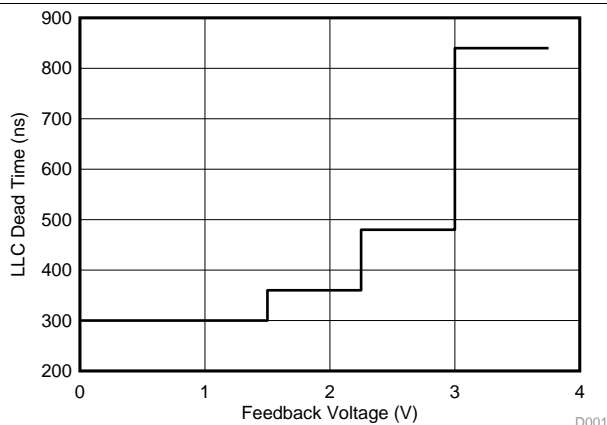

Figure 2. LLC Dead Time vs V_{FB}
(8) Refer to Figure 2.
(9) Refer to Table 4 for other LLC Stage Over-Current Protection Levels.